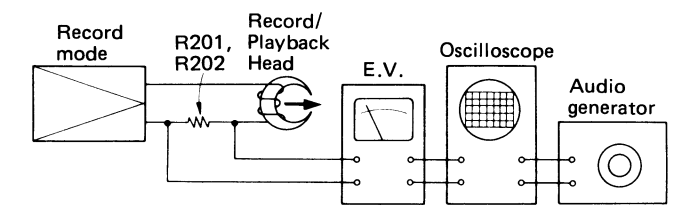

Figure 10-2
1. Make connection of instruments as shown in Fig. 10-2.